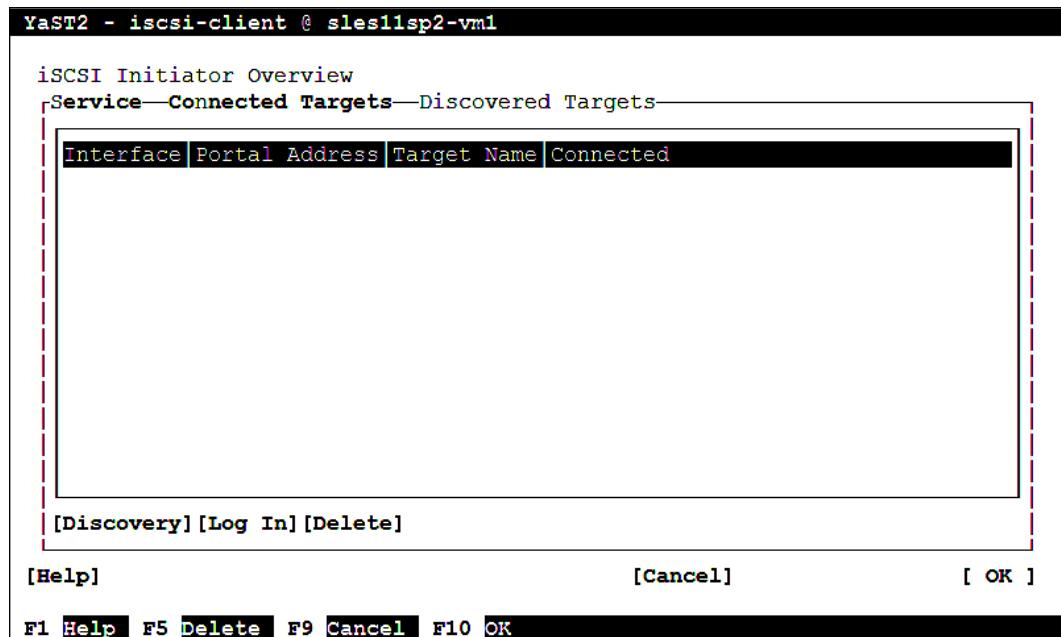

Figure 7-13 Discovered targets menu
2. Select Discovered targets. Figure 7-13 shows the menu that opens.